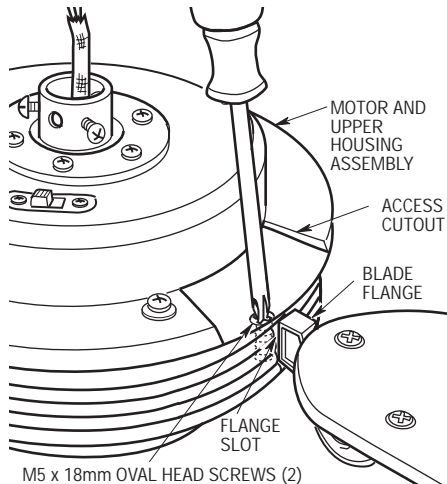

Figure 2
- 2. Rotate the motor and upper housing assembly so that one of the flange slots in the motor and upper housing assembly lines up below the access cutout in the motor and upper housing assembly (Figure 2). Insert the blade flange through the slot and line up the holes in the flange with the threaded holes in the motor and upper housing assembly.
- 3. Carefully position a M5 x 18mm oval head screw in one flange hole and loosely tighten the screw (Figure 2). Install the second screw in the same manner and securely tighten both screws. Repeat steps 2 and 3 for the remaining four blade assemblies.